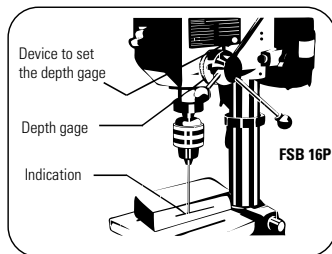

FIGURE 8.12
- Loosen the depth gage (Figure 8.12).
- The drill bit will stop at the adjusted depth level while no alteration is made on the depth gage (Fig. 8.12 and 8.13).